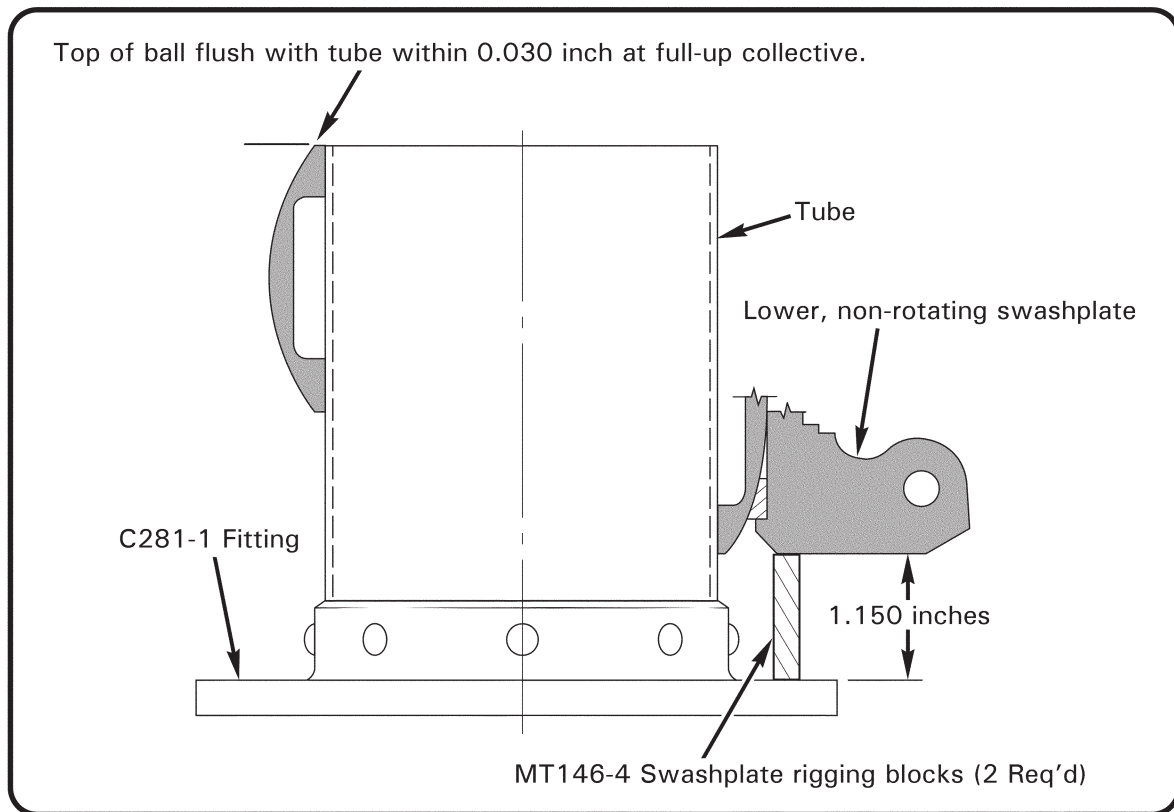

FIGURE 18-8 LOWER SWASHPLATE CLEARANCE
6. Refer to Figure 18-8. Position MT146-4 swashplate rigging blocks between lower, non-rotating swashplate and C281-1 fitting.
8. Disconnect (3) F121-3 push-pull tubes from lower swashplate. Ensure swashplate rests on rigging blocks.
After making adjustments, position collective stick full up and apply friction. Verify top of swashplate ball is flush with tube within 0.030 inch per Figure 18-8. Adjust all swashplate push-pull tubes exactly the same amount as required (one full turn = 0.48°). Lengthening all push-pull tubes increases blade angles.